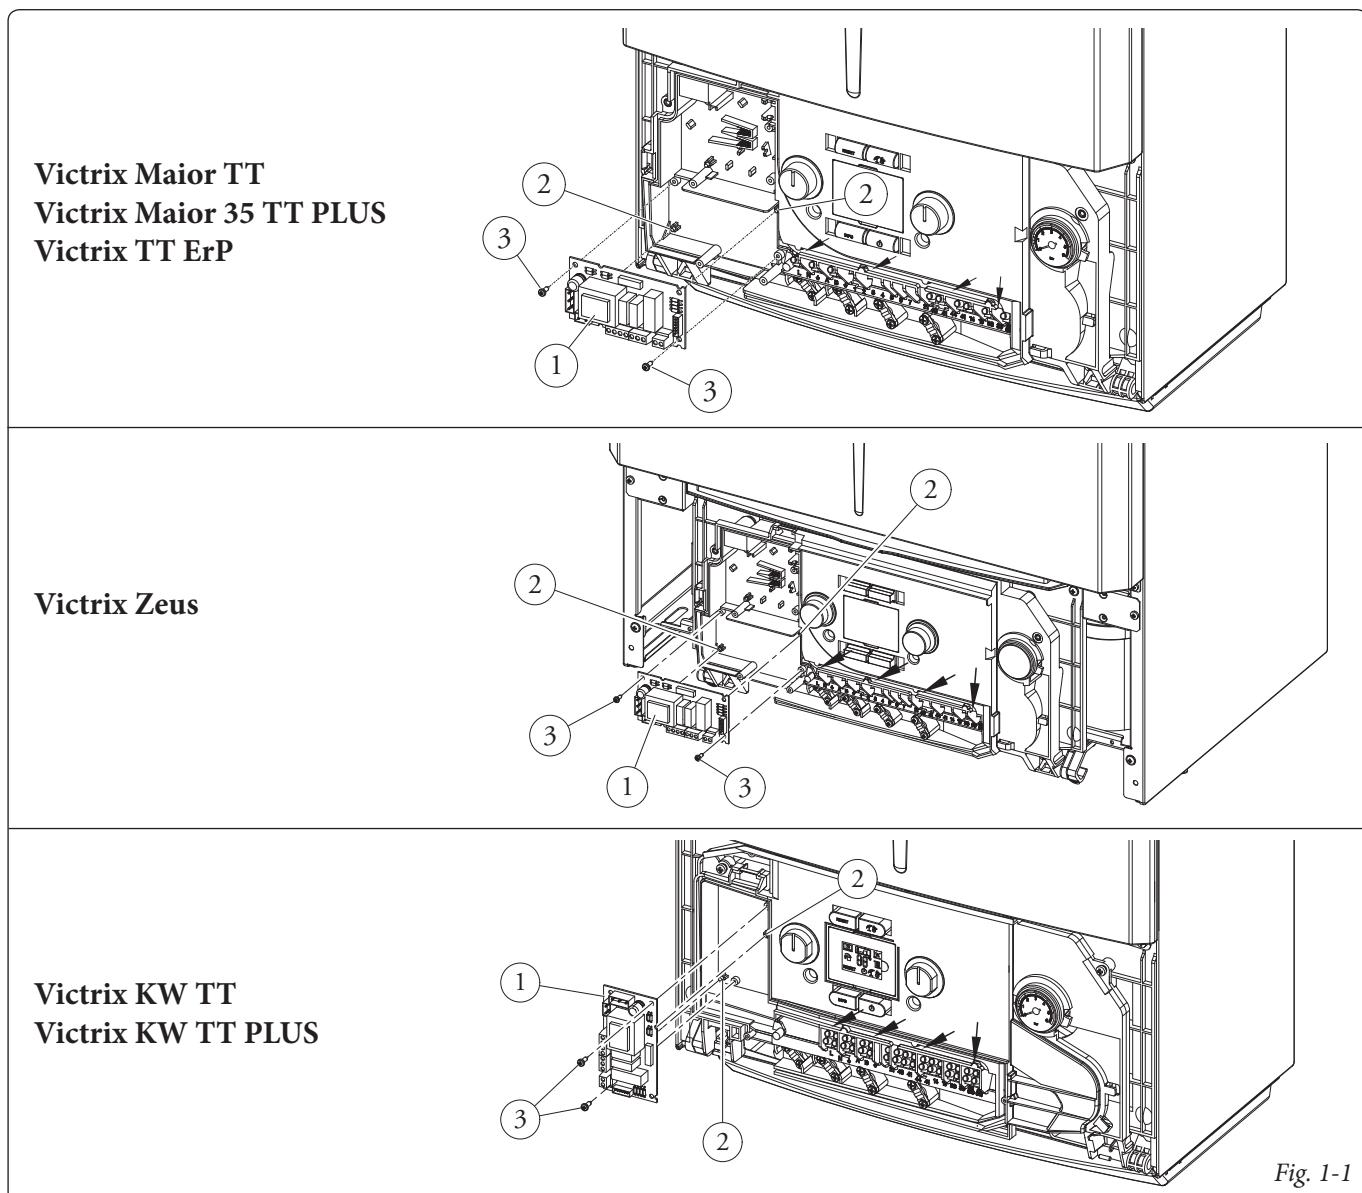

Fig. 1-1
- Open the control panel compartment to install the relay board (1).
- Mount the board making the male pin (2) match the hole in the board (1) and fix it using the cross-head screw (3) (see figure 1-1).
- Make the electric connections between the relay board (1) and the boiler P.C.B., placed on the control panel rear, using the relative wiring composed of two cables supplied with the kit.
- The connection cable between the relay board and the boiler board must comply with the path indicated by the arrows (fig. 1-1).